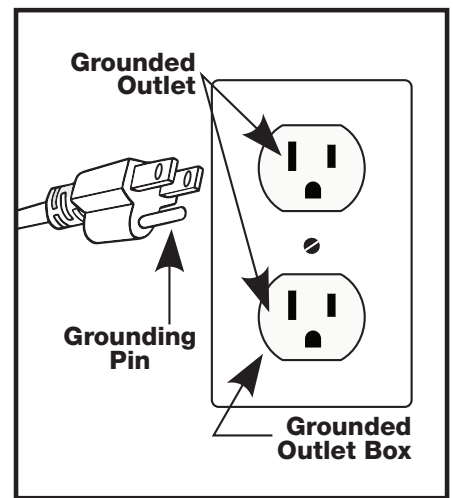

Fig. 1
- Always plug the power cord into a properly configured grounded outlet. *Fig. 1*